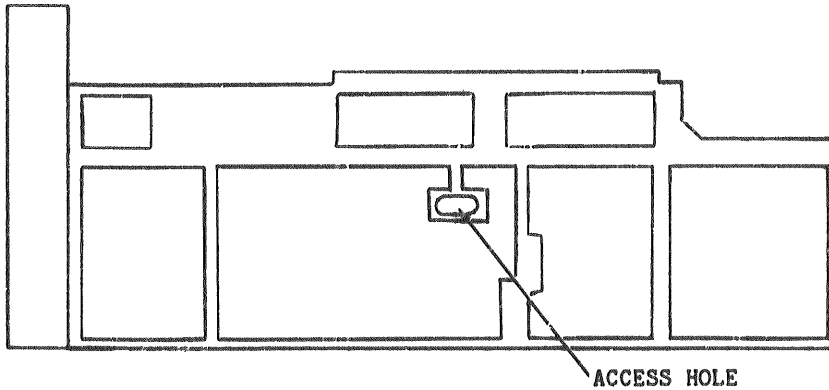

Figure 4-7. Track Zero Adjustment Access
- 2) Turn the track zero adjustment screw (see Figure 4-7) to set the DC level to its nominal value of +2.5 volts.